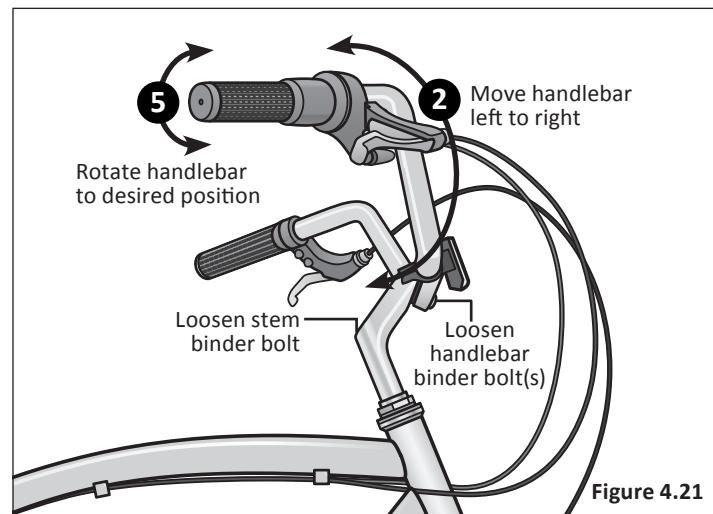

Figure 4.21
- Using a 6 mm Allen wrench, loosen the stem binder bolt and move the handlebar left or right until it is aligned with the front wheel. **Figure 4.21**
- Move the handlebar into the desired position. **Figure 4.21**